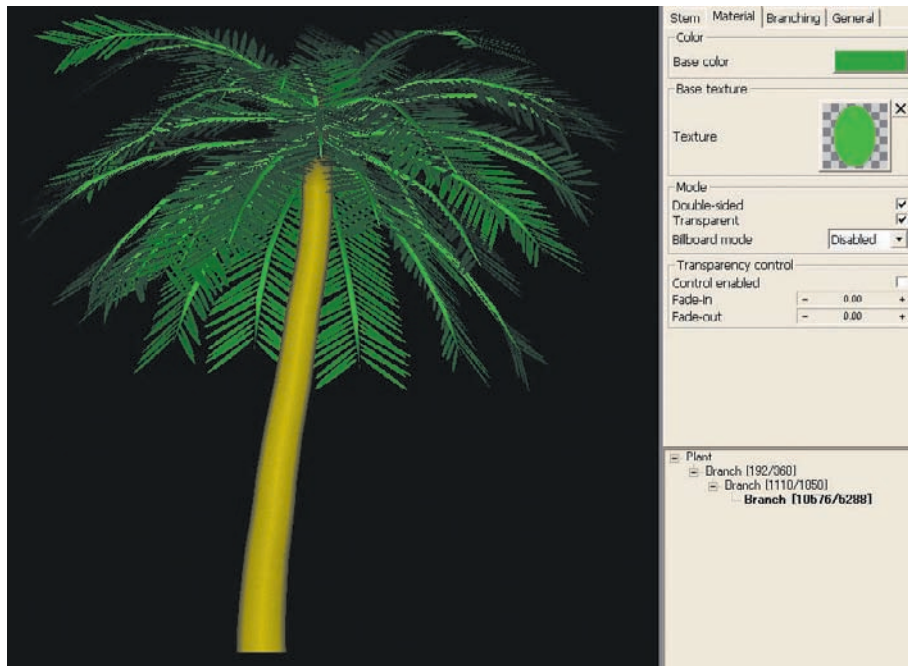

Figure 7.36 Material parameters for leaves
8. Go to the Material tab and set the parameters as shown in Figure 7.36. Add a base texture by clicking the Texture button and selecting `greenleaf.tga` from the textures directory in the ngPlant installation directory. Select the Double-Sided and Transparent check boxes.